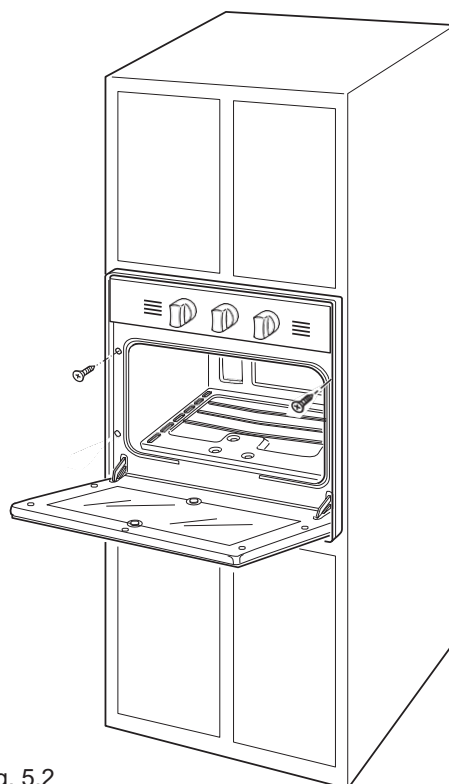

Fig. 5.2
Through the holes in the trim, two (2) SUITABLE screws (provided with the device) are used to attach the trim to the cabinet (see fig. 5.2) Before being fastened to the cabinet, the unit needs to be correctly leveled.